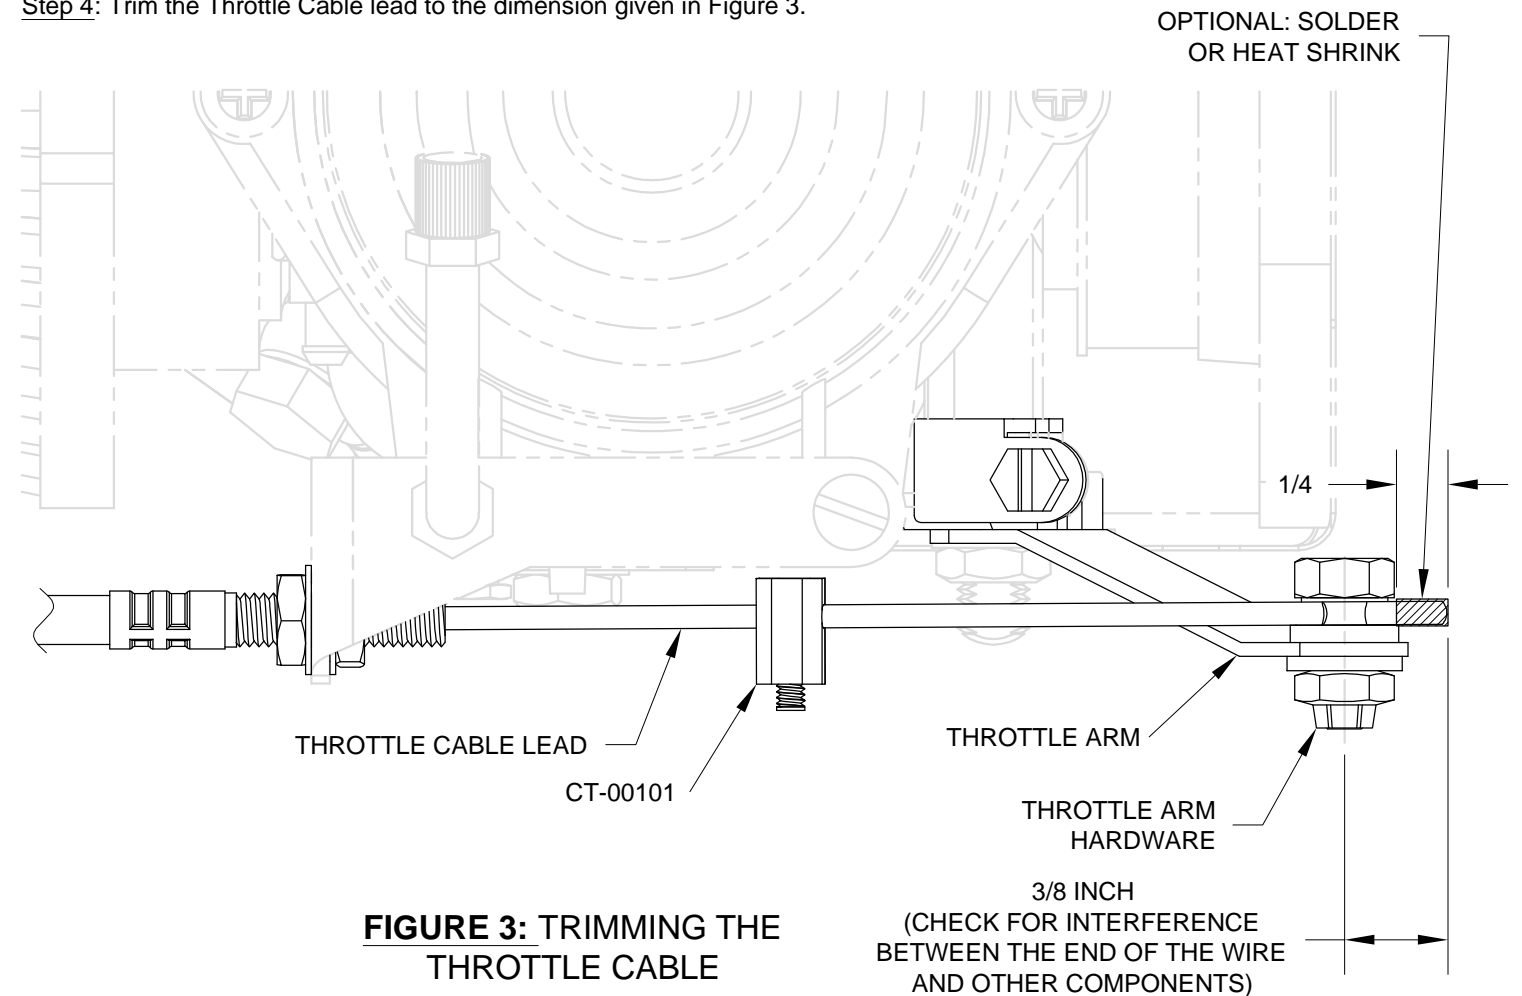

FIGURE 3: TRIMMING THE THROTTLE CABLE
Step 4: Trim the Throttle Cable lead to the dimension given in Figure 3.